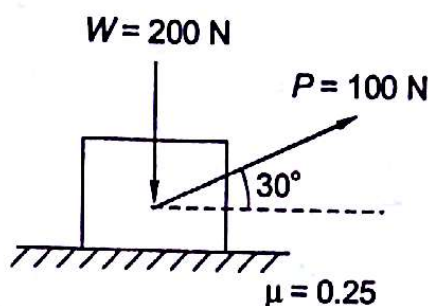

Fig. 6.24
- 6.1 A block weighing 200 N is lying on a rough surface. An inclined force of 100 N acts on the block. If coefficient of friction between block and surface is 0.3, what is force of friction on block when block tends to slide under the action of force P (Fig. 6.24)?